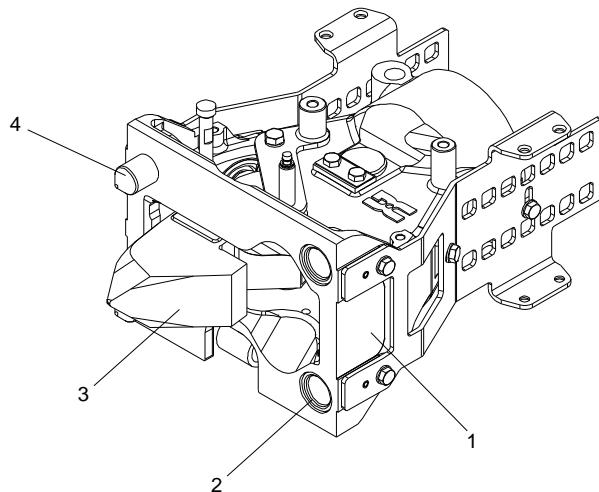

Figure 5-1: Inspect Mechanical Coupler
1. Clean mechanical coupler (1) front face using low aromatic white spirit or equivalent. See Figure 5-1.
2. Make a general inspection of the mechanical coupler (1). Check for signs of deformation, rust or other damage. Rust has to be removed and the surface repainted. Repair of deformation is not allowed unless sanctioned by Dellner Couplers.
3. Inspect hook (3), guide pins (4), and bushings (2) for wear or damage. Replace parts as necessary.